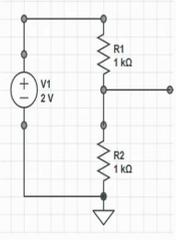

Figure 1
- In the Figure 1 shown below, in a resistive divider circuit if R_2 is considered as a sensor any change in R_2 resistance results in voltage change. For $R_2 = 1\ \text{k}\Omega$, the output voltage is 1 V